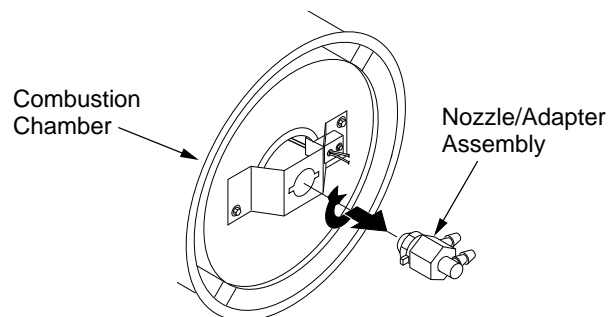

Figure 18 - Removing Nozzle/Adapter Assembly
4. Turn nozzle assembly 1/4 turn to left and pull toward motor to remove (see Figure 18).
10. Attach nozzle assembly to burner strap (see Figure 18).